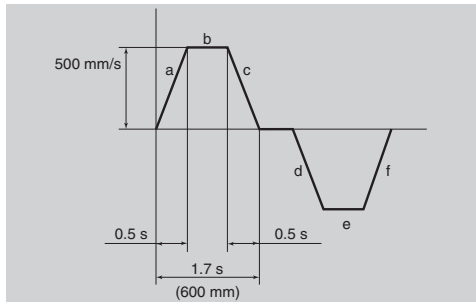

Fig. 4.9
3-1-1. Fatigue life; Multiply the result of the Eq. ② by the dynamic equivalent coefficient (Table 4.14. double slider) to convert the load volume. From operation profile (Fig. 4.9), the acceleration is 1 m/s^2 .